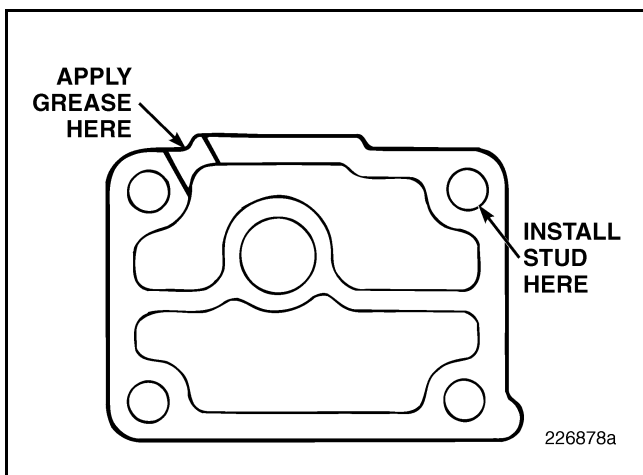

Figure 311 — Gasket Grease Application
2. Apply a small amount of grease to the back of the oil filter mounting bracket pedestal gasket around the area of the mounting hole on the left-hand side of the gasket as shown in Figure 311. This will hold the gasket in place as the oil cooler and filter assembly is installed.